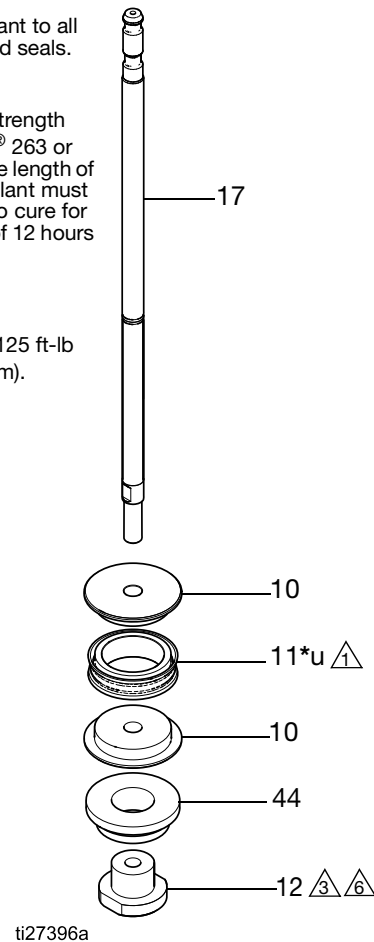
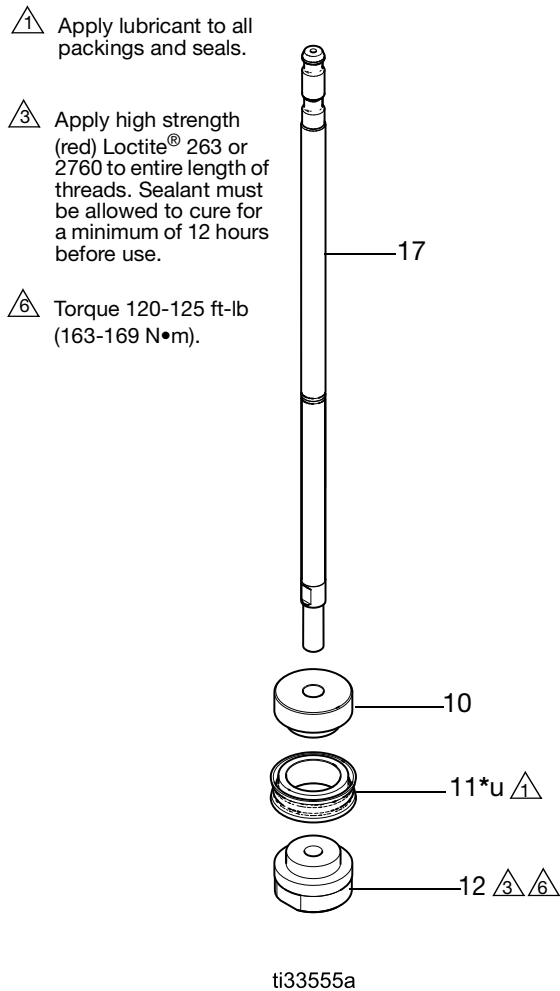

FIG. 6. Disassemble or Assemble the Piston (1000cc, 1500cc, and 2000cc models only)
FIG. 7. Disassemble or Assemble the Piston (750cc model only)
See FIG. 6, page 10 or FIG. 7, page 11.
1. 1000cc, 1500cc, and 2000cc models only: Place the halves of the piston (10) around the piston seal (11u*) and snap them together. See FIG. 6.
750cc and 750cc HP models only: Place piston seal (11u*) onto piston (10). See FIG. 7 on page 11.
2. Apply high strength (red) Loctite® 263 or 2760 to the inner diameter threads on the piston nut (12). Screw the rod (17) through the piston (10) and spacer (44; not used on 750cc models) into the piston nut (12). Torque the piston nut (12) to 120-125 ft-lb (163-169 N•m). Sealant must be allowed to cure for a minimum of 12 hours before use.